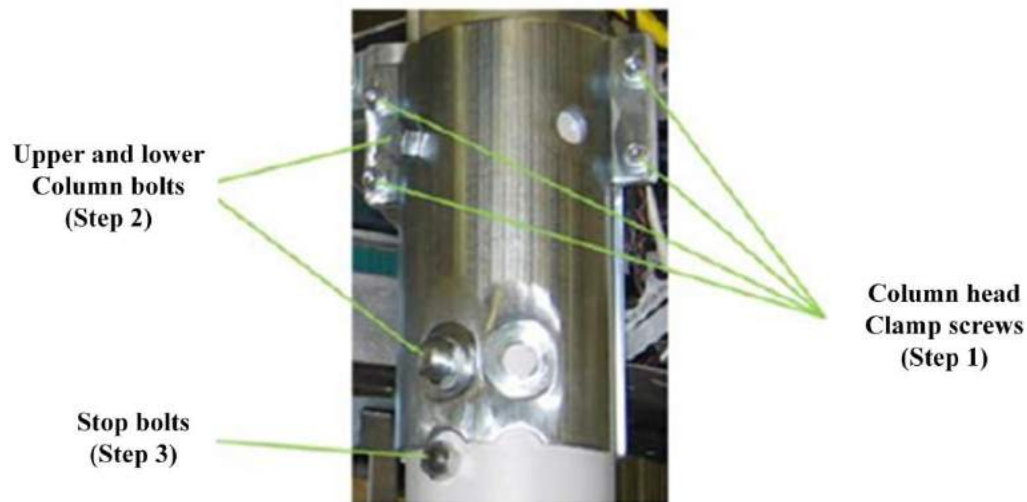

Figure 45: Other Column Screws/Bolts Torqued
1. Using a 6mm hex bit socket and 3/8th drive torque wrench, torque the 16-column head clamp screws to 13.6 Nm (10.0 ft-lb) using a cross pattern to prevent binding the screws (see Figure 45). The spacing on both sides of each clamp should be equal.